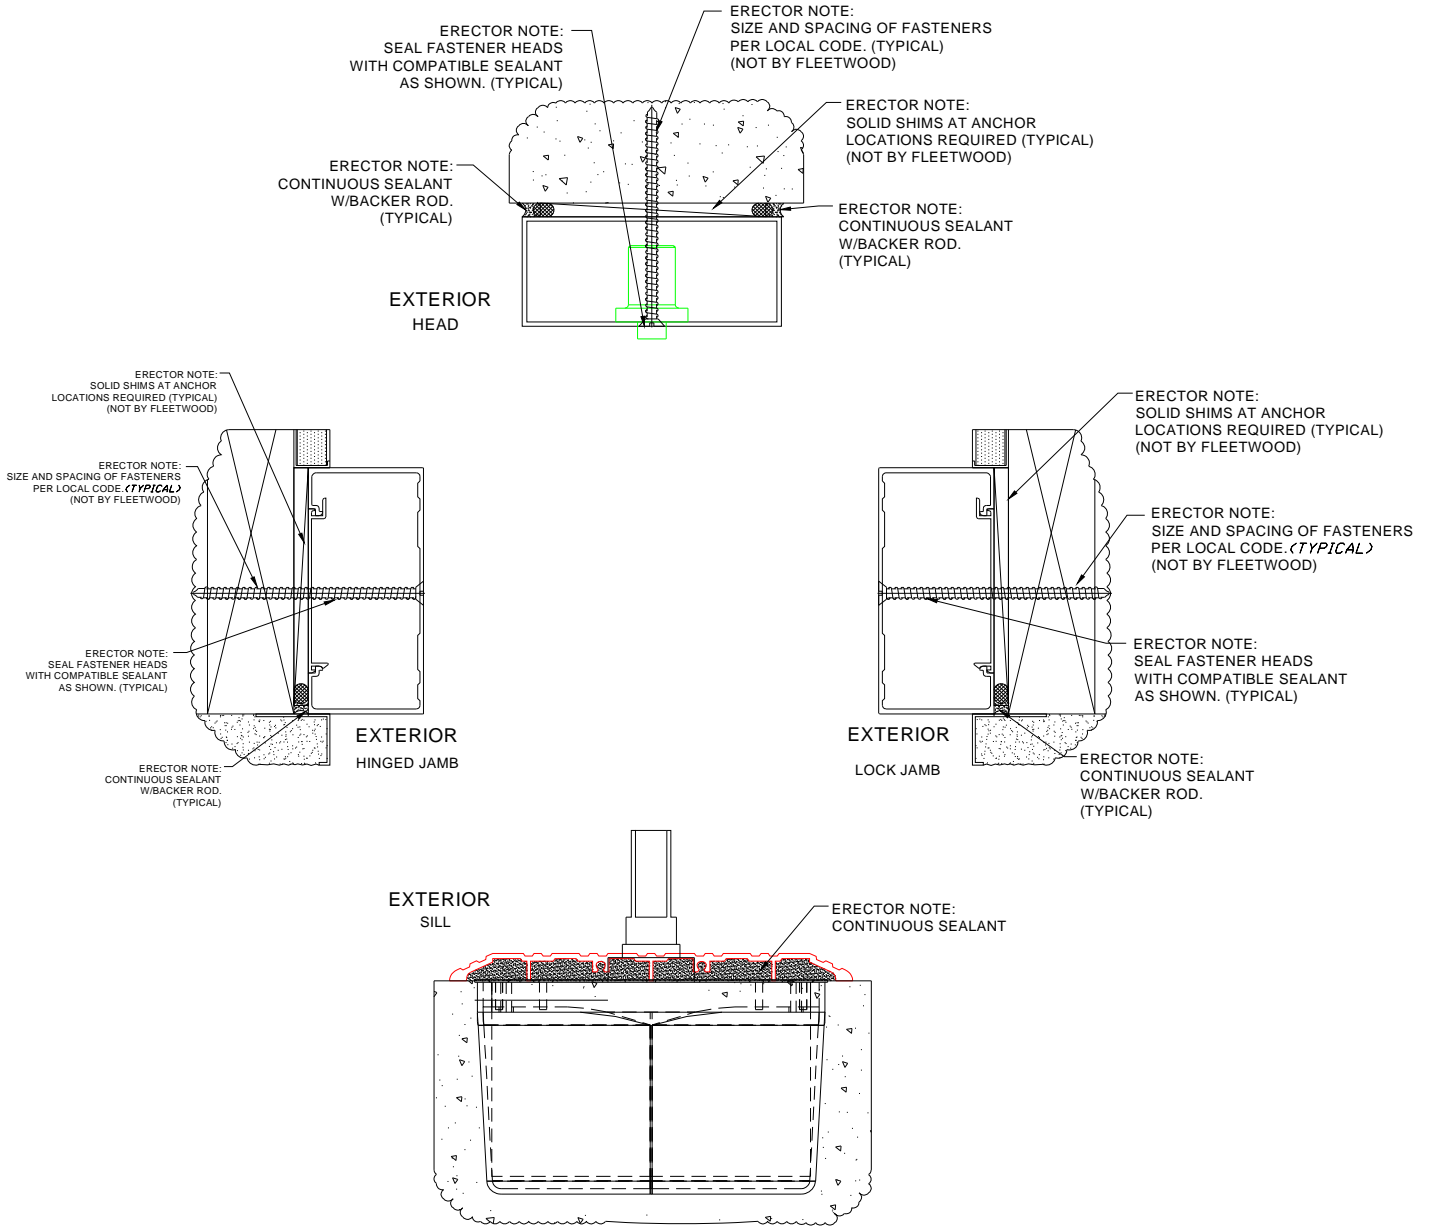

Figure 6:
2. Insert the frame into the opening and set the sill in a full bed of sealant (Figure 6). Do not apply sealant near bearing area of floor closer. Cross-measure and adjust as necessary to achieve a plumb square and level condition, as well as an even reveal around the framed opening. Shim with non-porous, non-absorbent, inorganic shims where needed. Seal all fastener heads with compatible sealant.